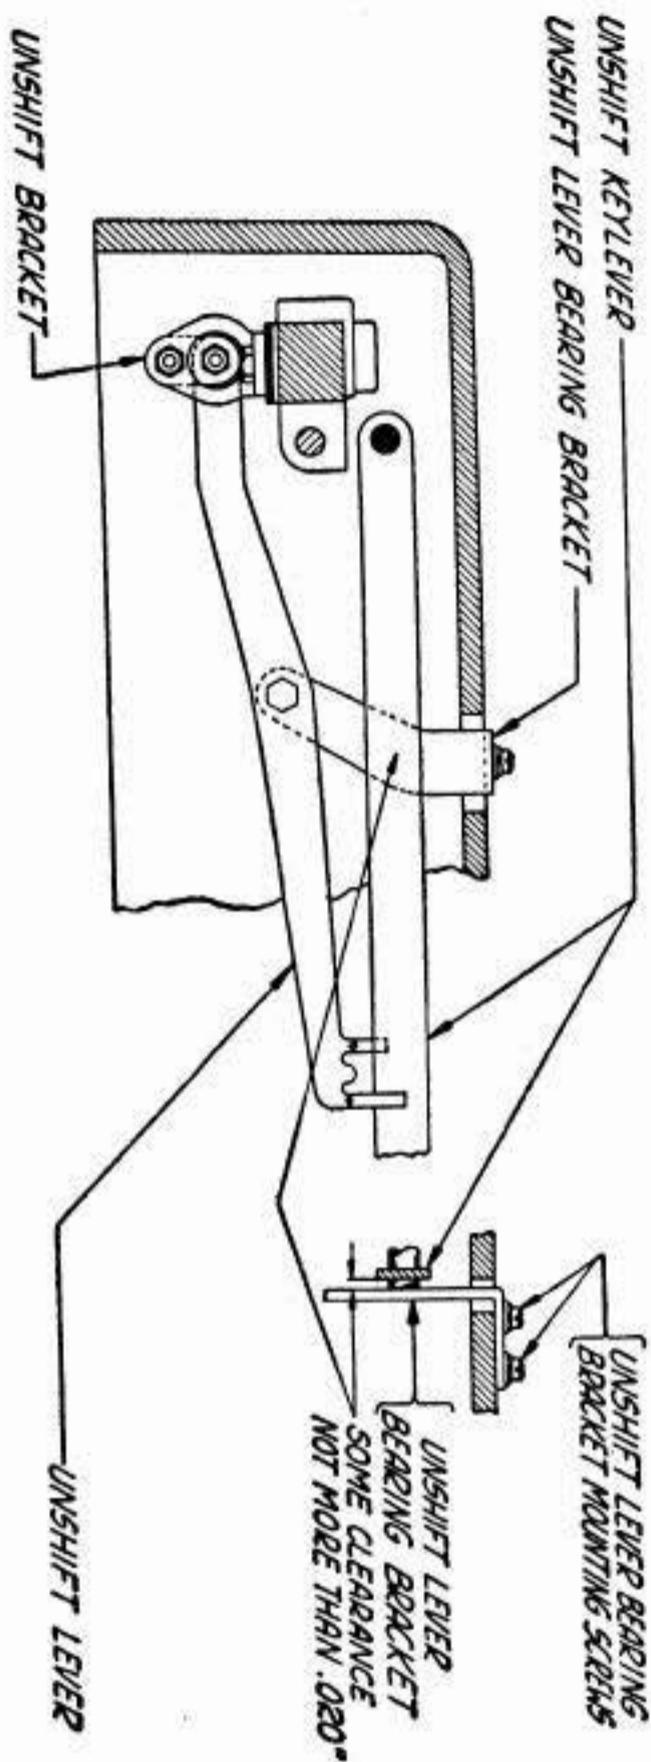

Fig. 2
- (a) There should be some clearance, not more than .020" as indicated in Fig. 2, between the unshift-lever bearing bracket and the UNSHIFT keylever. There should also be some clearance, not more than .020", between the shift-lever bearing bracket and the SHIFT keylever.
- (1) To adjust, position the bearing brackets by means of their elongated mounting holes. **Fig. 2**
- (b) The shift and unshift levers should engage the SHIFT and UNSHIFT keylevers properly, as indicated in Fig. 2 and the shift and unshift levers and connecting links should have some sideplay at their pivot points.
- (1) To adjust, position the shift and unshift brackets by means of their elongated mounting holes.